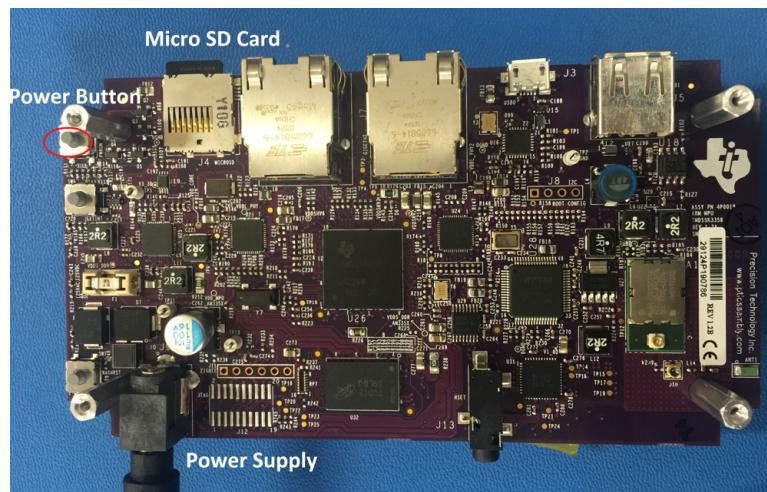

図 4. AM335x Starter Kit Setup (LCD Face Down)
1. Insert the micro SD card created in 3.1.2 in the location shown in 図 4.
2. Insert the 5-V power supply and press the power button shown in 図 4.